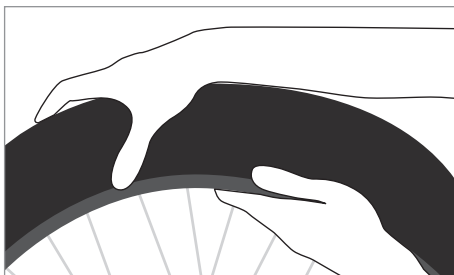

Figure 3
- Place your hands on the uninstalled tire bead opposite the valve. Then push the bead over the rim lip (Fig.3). Work your way around the rim until the entire bead is inside the rim. Make sure the tube is not pinched between the rim and the tire.